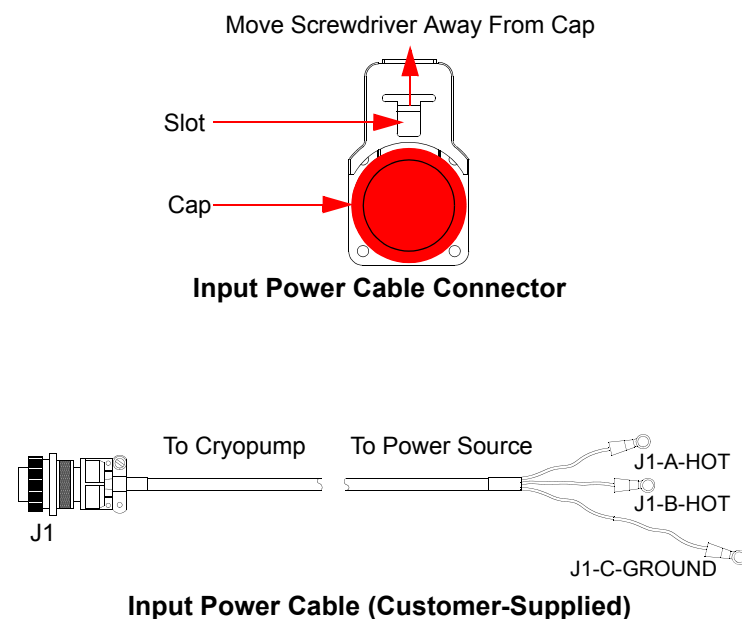
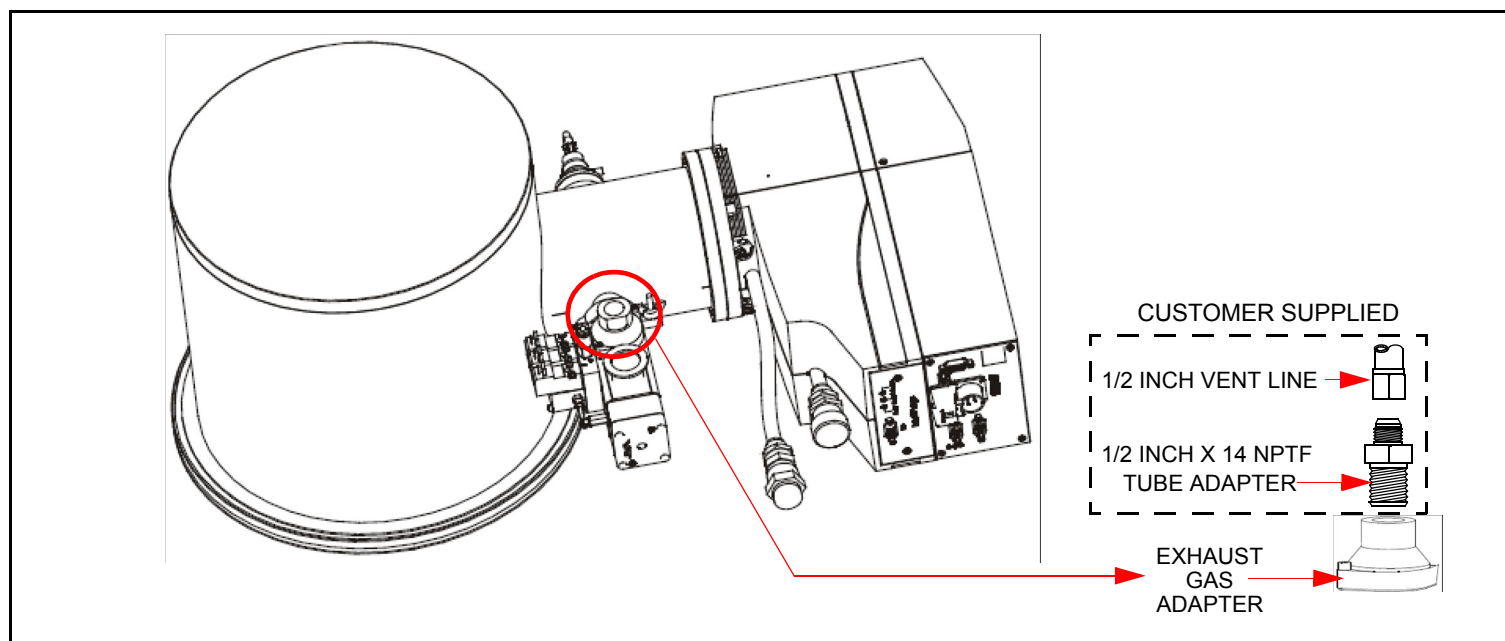

Figure 2: Input Power Cable Connector and Input Power Cable
Figure 3: Relief Valve Exhaust Connection
NOTE: To avoid loss of helium, do not modify or remove the pressure relief valves. (See *Figure 3*.) Always connect and disconnect helium flex lines with the method illustrated in *Figure 1 Inset*.
See the following numbered steps in *Figure 1*, *Figure 2*, and *Figure 3* for cryopump installation connections.
- 4 Connect the pressure relief valve exhaust (*Figure 3*).
- 13 Remove cap and connect Input Power Cable (*Figure 2*).